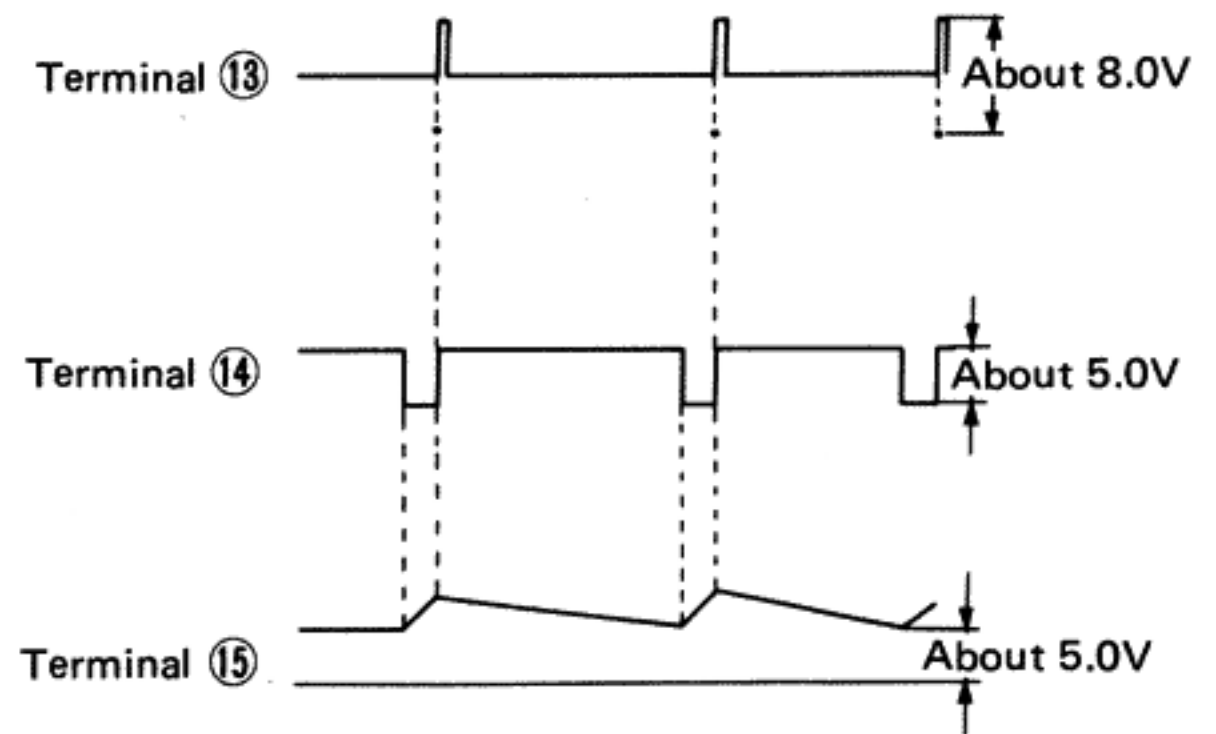

Fig. 14
- Measure the waves at terminal ⑬, ⑭, ⑮ of IC201. When the output waveforms are as shown Fig. 14 the control circuit is normal.